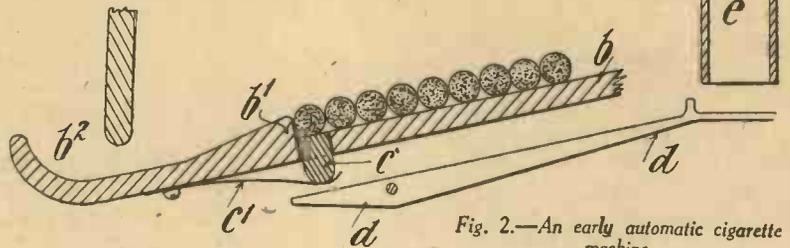

Fig. 2.—An early automatic cigarette machine.
Fig. 2 shows a machine of about the same period (1885) for delivering one cigarette at a time. The cigarettes are fed downwardly by gravity on an inclined plane (B) against a stop (B¹). Below the cigarette in contact with the stop and working through a slot in the plane (B) is a transverse slide (C). This slide is held in its normal position shown by a leaf spring (C¹). Underneath the plane (B) is pivoted a lever (D), the one end of which is immediately below the slide (C) and the other end is adapted to momentarily hold a coin passing down a chute (E). The